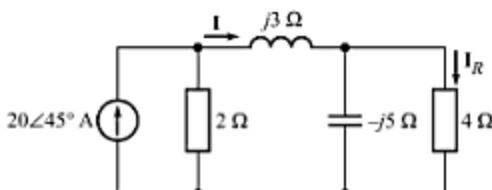

Fig. C-57
- C-87. Use current division twice to find the current \mathbf{I}_L for the circuit shown in Fig. C-57.